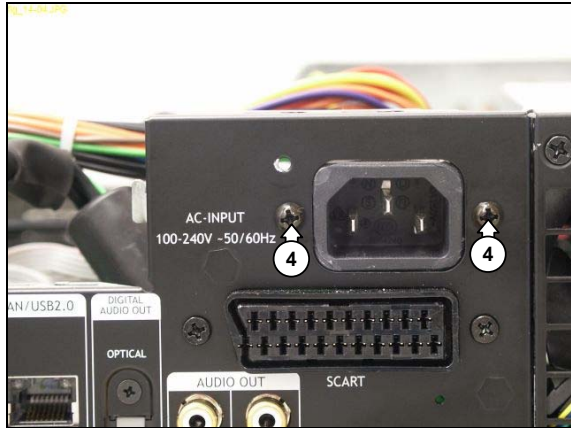

Figure 12.14-4
7. Remove the 2 mounting screws (4) from the AC input. See Figure 12.14-4.